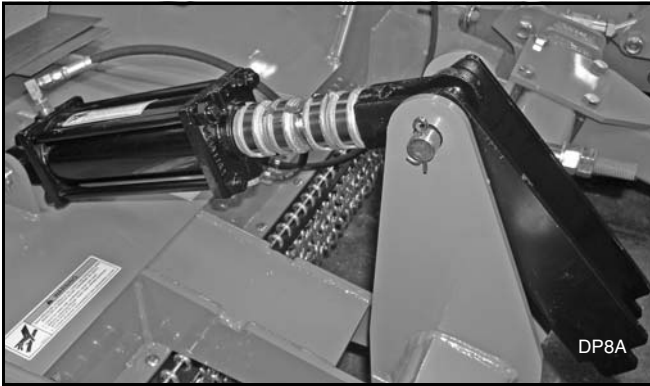

Figure 3. Transport Lock In Operation Position
4. To lower cutter for operation, extend hydraulic cylinder to raise cutter. Rotate transport lock back away from cylinder rod (Figure 3).